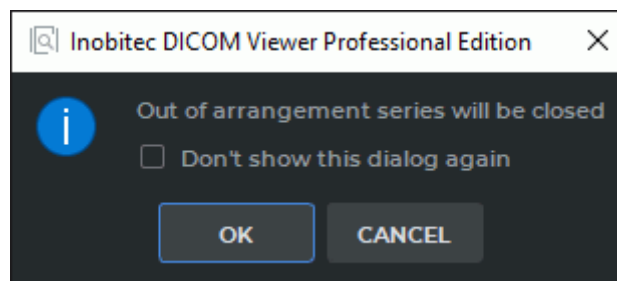

Figure 2.13: Warning dialog box
If the selected grid configuration has fewer cells than there are open series in the study, a warning dialog box pops up (Fig. 2.13), in which the program asks for a permission to close the open series.
- Check the **Don't show this dialog again** box in the dialog (Fig. 2.13) and click the **OK** button.